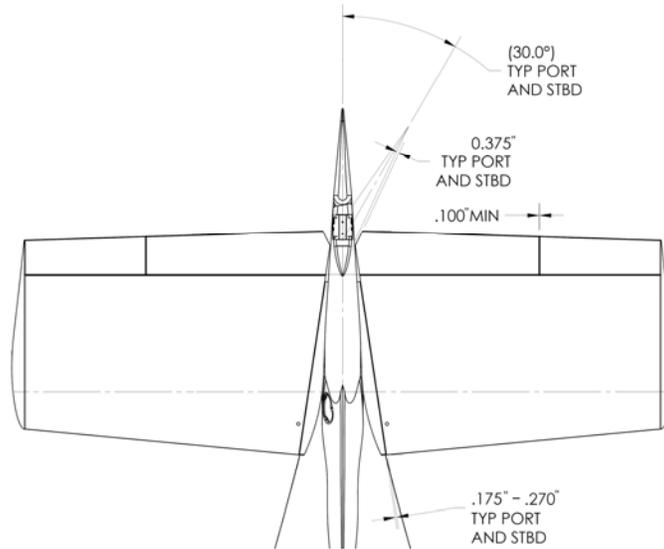

Figure 27-80 Tail Section Measurements
16. Check all combinations of trim tab / horizontal stabilizer movement against full travel of rudder to ensure a minimum clearance of 0.375in between inboard aft corner of trim tab (worst condition tail plane and trim tab extended fully down) and rudder skin at maximum rudder travel see Figure 27-80.